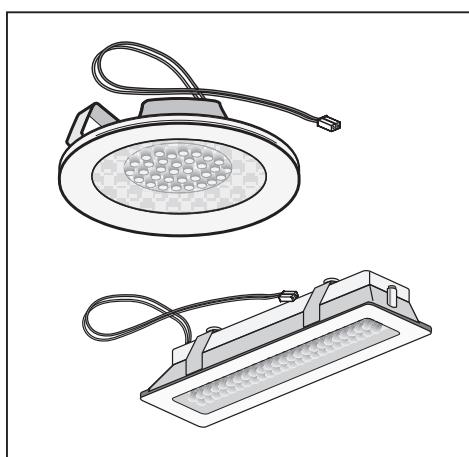

Fig.20
• Replacing LED lamps (Fig.20):